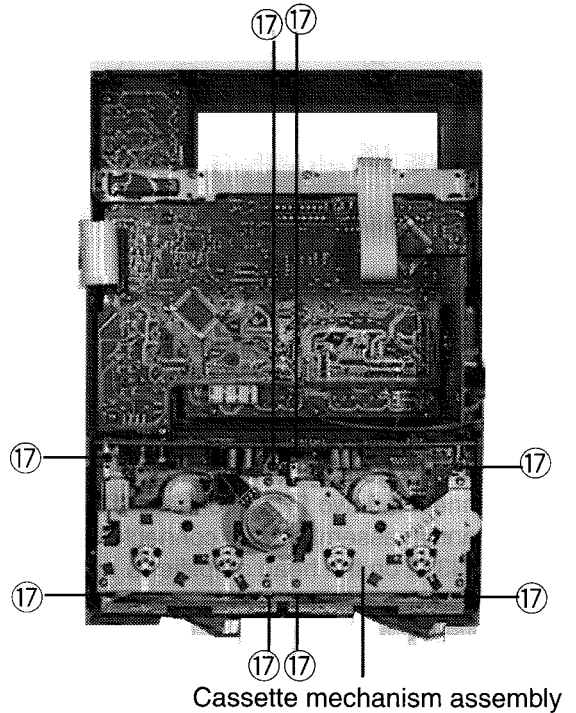

Fig. 17
■ Removal of the Cassette Mechanism Assembly (See Figs 17, 18)
5. Remove the eight screws ⑰ fastening the cassette mechanism assembly from the inside of the front panel assembly.(See Fig.17)